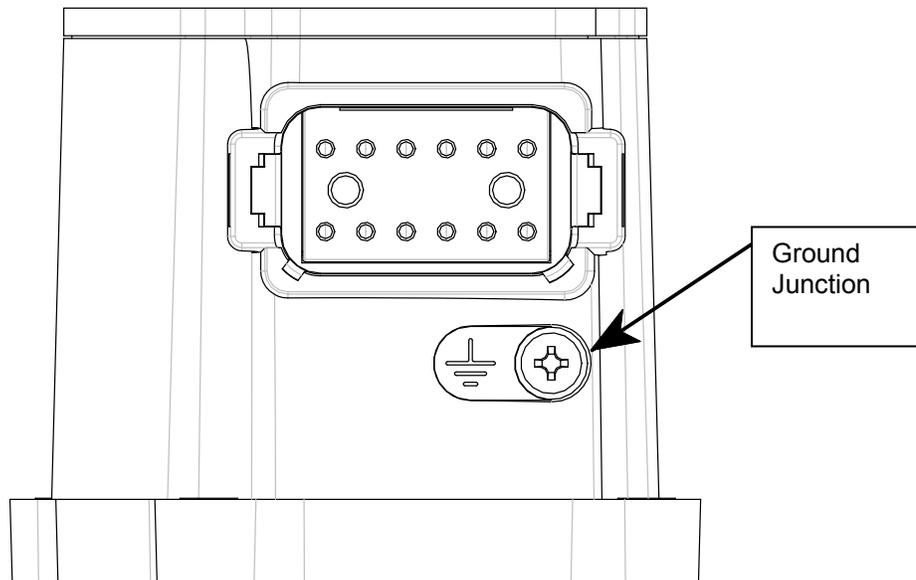

Figure 3-11. Ground Junction Point
**Ground Junction** (see Figure 3-11)